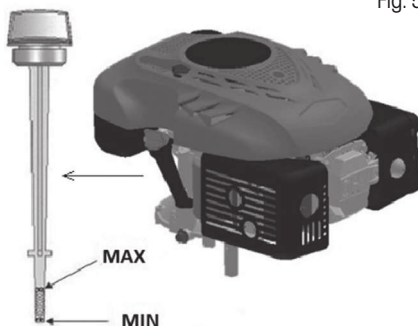

Fig. 5
2. Pull the cap with the oil dipstick out of the oil refill hole (Fig. 5).
4. The oil level must be between the upper (MAX) and lower (MIN) limit (Fig. 5).